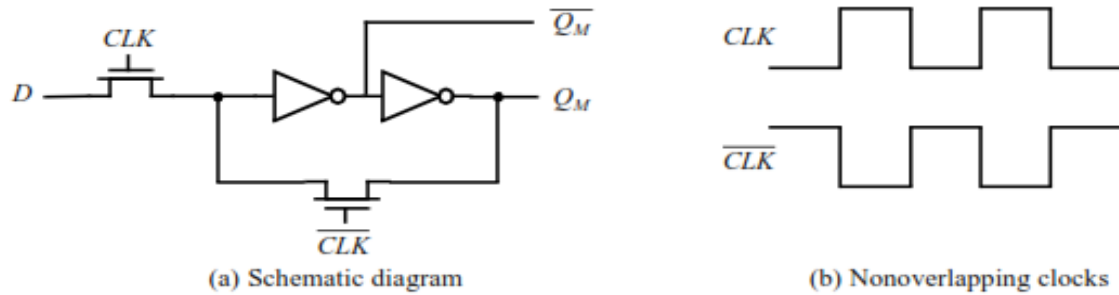

Figure 3.8 Multiplexer based NMOS latch using NMOS only pass transistors for multiplexers.
- To reduce the clock load, implement a multiplexer based NMOS latch using two pass transistors as shown in Figure 3.8.